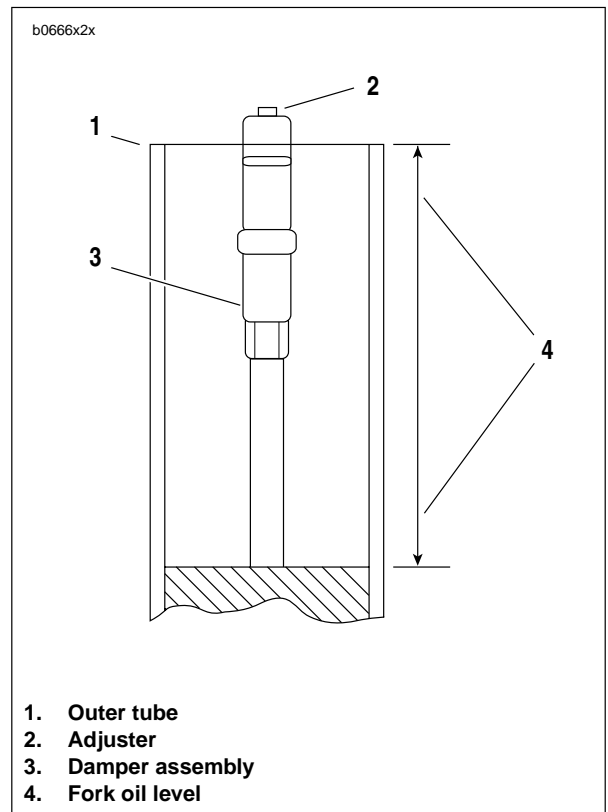

Figure 2-73. Measuring Fork Oil Level
17. See Figure 2-73. Adjust fork oil level with FRONT FORK OIL LEVEL GAUGE (Part No. B-59000A) so that it is 4.21 in. (107 mm) from the top of the fork tube.